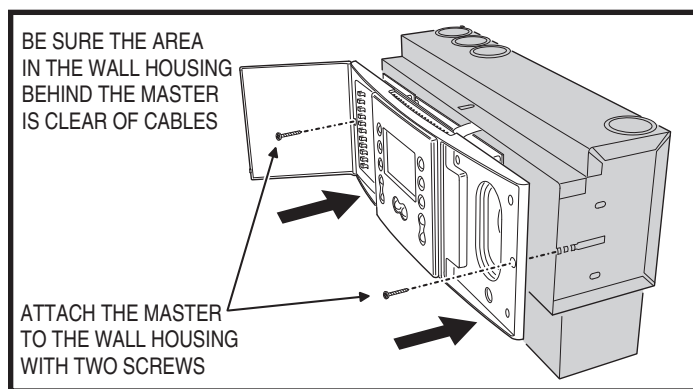

Figure 21. Master Station Only in DMC1H Wall Housing
3. Secure the DMC1 Master Station to the wall housing using the two long screws provided (see Figure 21).